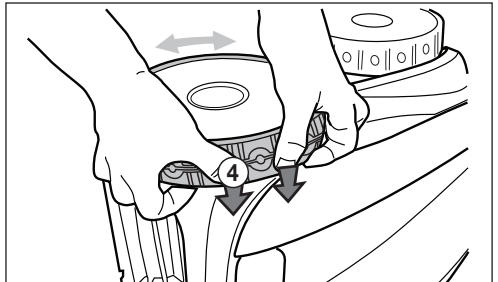

Figure 34. Push the Tyre into Place on the Wheel
6. Push and position the rib of the inner side of the tyre in the groove of the wheel. If needed, turn the wheel gently to help with installation. See *Figure 34*.